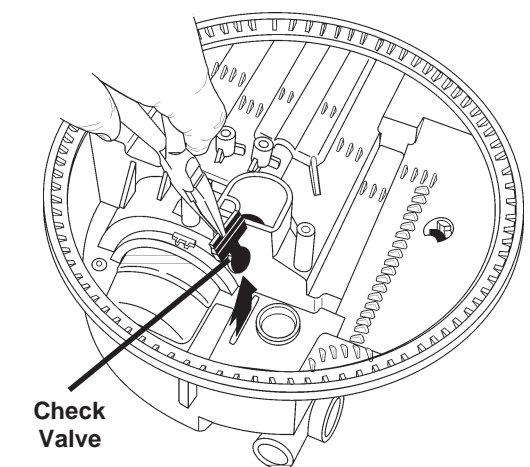

Fig. 3-30
6. The check valve, located between the wash motor and the drain can be removed with a pair of needle nose pliers. (Fig. 3-30)